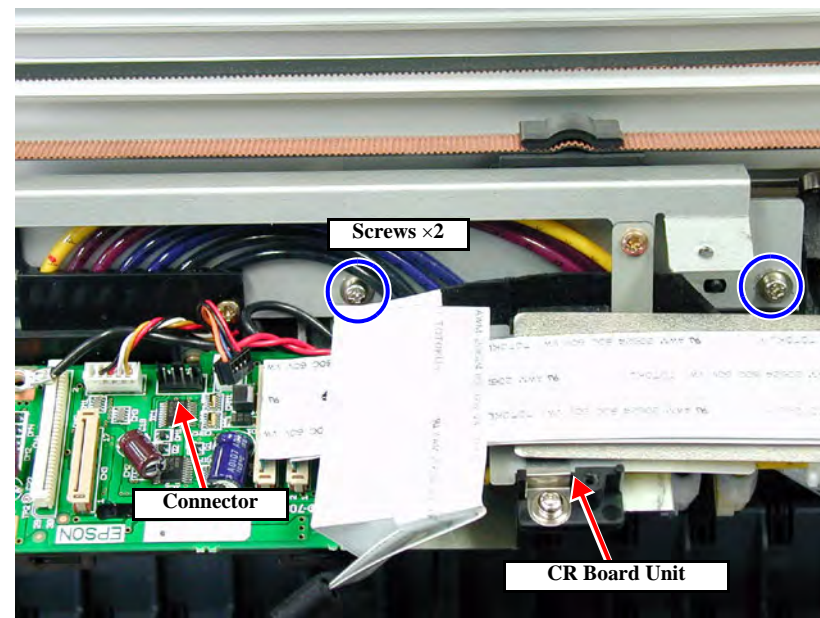

Figure 4-39. Removing the P_EDGE Sensor ASSY 1/2
7. Remove the two screws securing the CR Board Unit in the Carriage Unit, and take out the CR Board Unit toward the front. (See Figure 4-39)